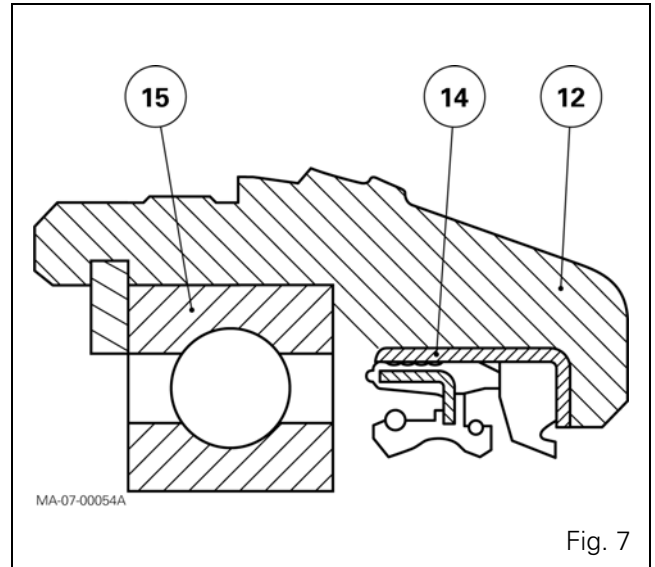

Fig. 7
17. Remove the O'ring (19).
18. Remove snap ring (20).
19. Separate the shaft (10) from the bearing assembly.
20. Remove the O'ring (11).
21. Take off circlip (7).
22. Separate the unit (12) from the roller bearing (15) (Fig. 7).
23. Remove snap ring (8).
24. Extract the roller bearing (15) from the hub (9).
25. Remove the sealing ring (14).
Reassembly (Fig. 7)